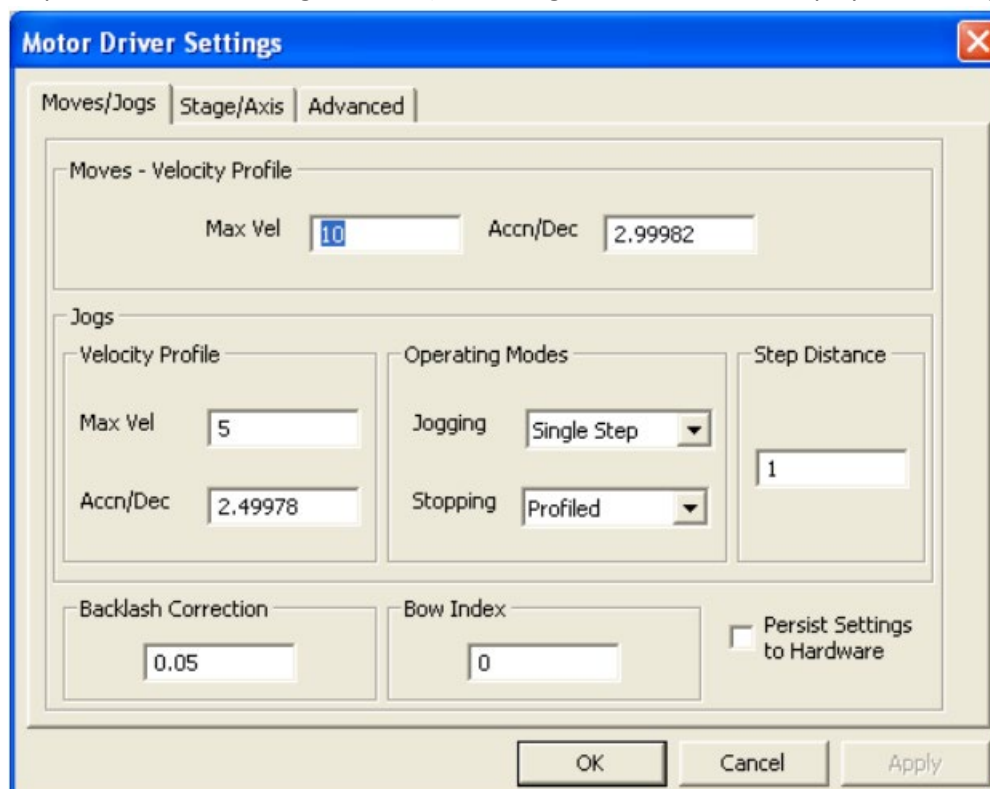

Figure 14 Settings Panel – Move/Jogs Tab
- Select the Move/Jogs tab as shown in Figure 14.